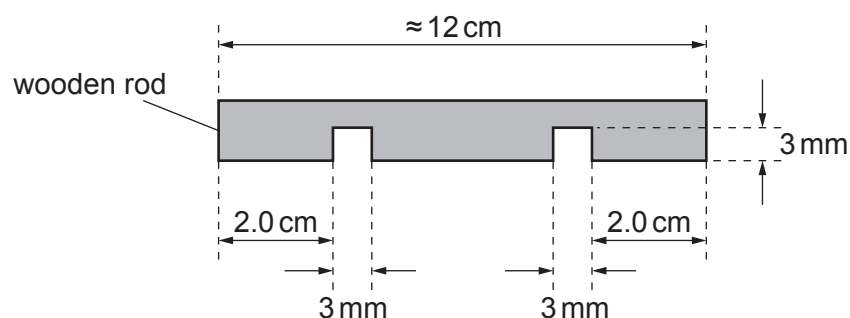

Fig. 1.2 (not to scale)
- 2 Cut two slots, each of approximate width 3 mm and approximate depth 3 mm, into the shorter wooden rod at the positions shown in Fig. 1.2.